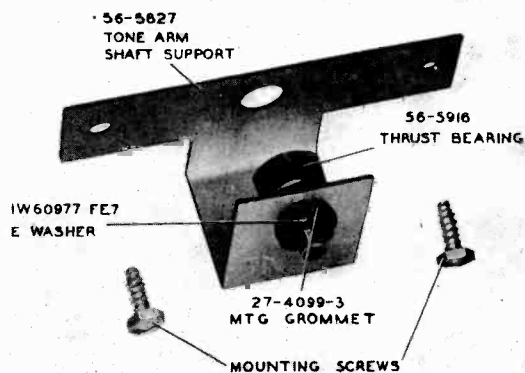

Figure 11
2. Remove E washer, Part No. 1W60977FE7, from bearing shaft; see figure 11.